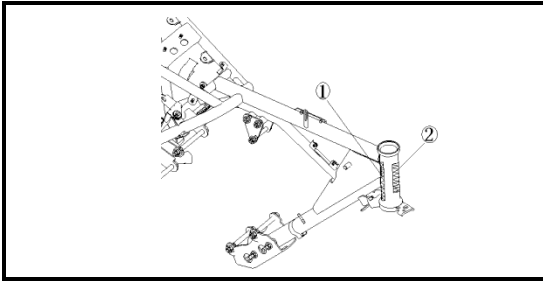
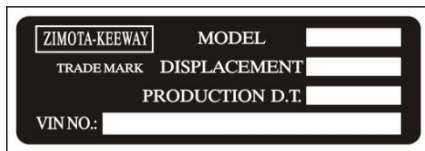

Figure 1-1
Figure 1-2
1. Frame number ① labeled as: \*LBBK6910?????????\*, as shown in Figure 1-1.
2. Frame nameplate is riveted at frame Position ②, as shown in Figure 1-1. Words on the nameplate are as described in Figure 1-2.